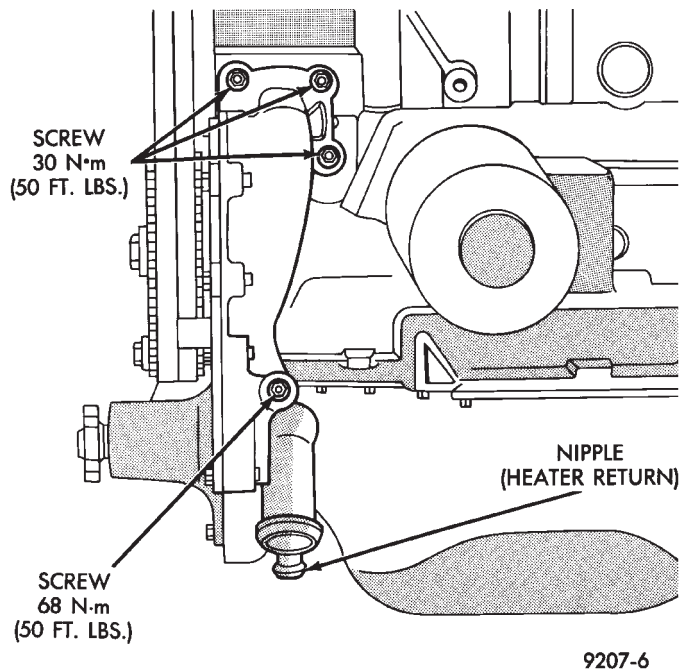

Fig. 1 Water Pump 2.5L Engines
(3) If the vehicle is not equipped with air conditioning, remove generator and mounting bracket.
(4) Disconnect lower radiator and heater hoses from pump.
(5) Remove water pump attaching screws to engine (Fig. 1).
- (1) Install water pump on engine. Tighten top three screws (Fig. 1) to 30 N•m (250 in. lbs.). Install lower screw and tighten to 68 N•m (50 ft. lbs.).
- (2) Reinstall bypass/heater hose and lower radiator hose.
- (3) Reinstall generator and air conditioning compressor bracket(s). For solid mount bracket see standard service procedures in Group 9 Engine.
- (4) Reinstall generator and air conditioning compressor.
- (5) Refill cooling system. See **Refilling Cooling System**.
- (6) Install drive belt, See Accessory Drive Belts, this Group.